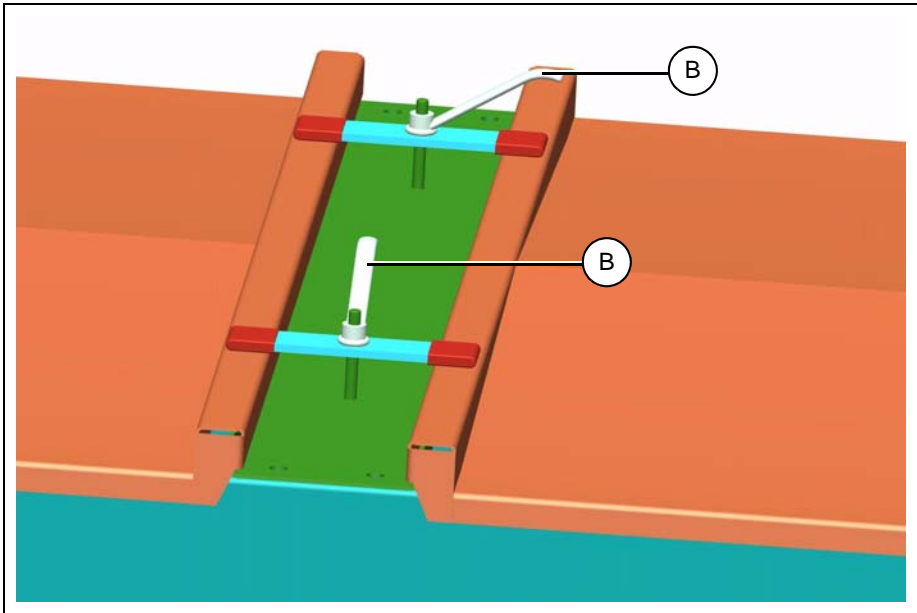

Figure 4G
2. When a loader is on the conveyor, the cover section may have to be cut accordingly to accommodate the loader. (See Figure 4G.) For installation of a loader, see loader installation on Page 20.